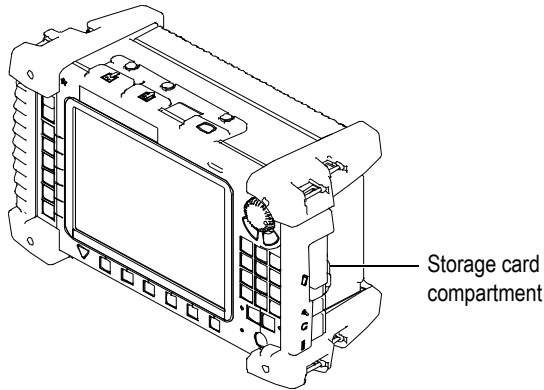

Figure 4-22 Removing the storage card from its compartment
2. On the right side of the OmniScan MX instrument, open the storage card compartment and remove the storage card (see Figure 4-22 on page 86).